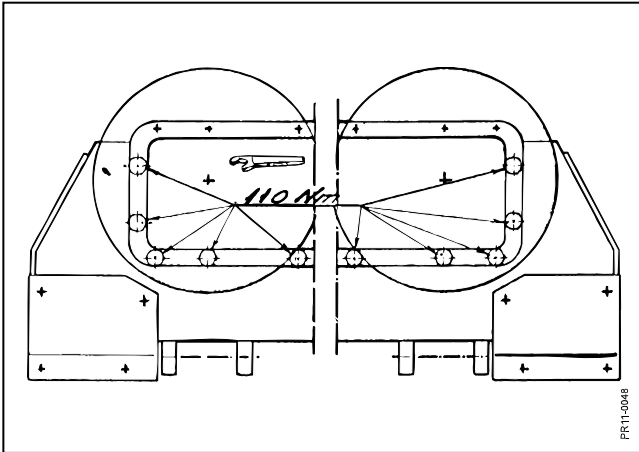

Fig. 5-4
- Fig. 5-4** To avoid damaging vibrations the bar must be tightened very well. 110 Nm (11 Kpm). Bolts at bar ends are checked regularly.